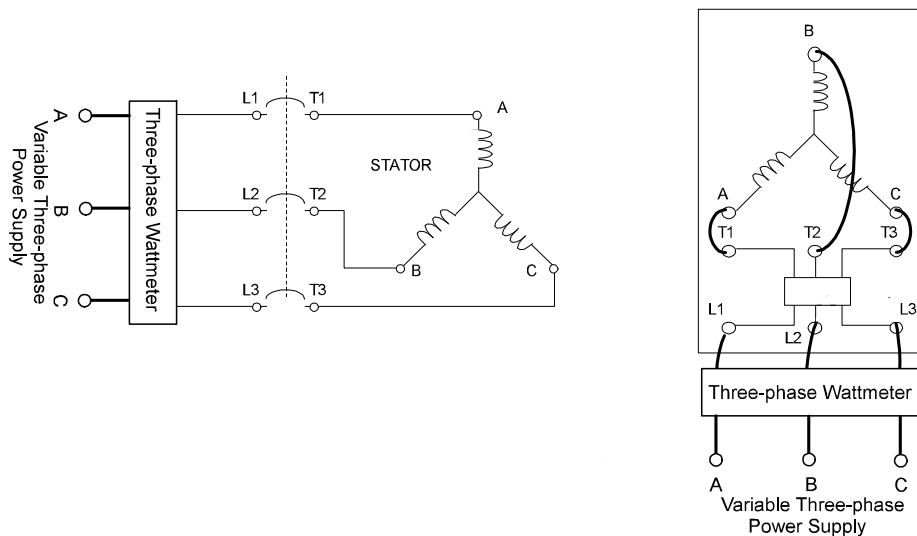

Figure 3. Three-Phase Induction Motor Connection.
2. Connect the induction motor to the variable three-phase power supply as shown in Figure 3. Read the Hampden Manual instructions for this machine.